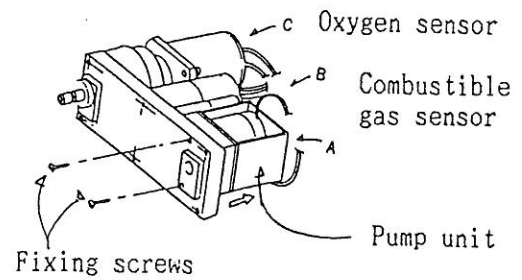

Fig 5-2
- 6) Remove the oxygen sensor by turning the sensor holder counter-clockwise (Fig 5-2. 3).
- 6) Remove two screws in Fig 5-2 and replace pump unit with new one.